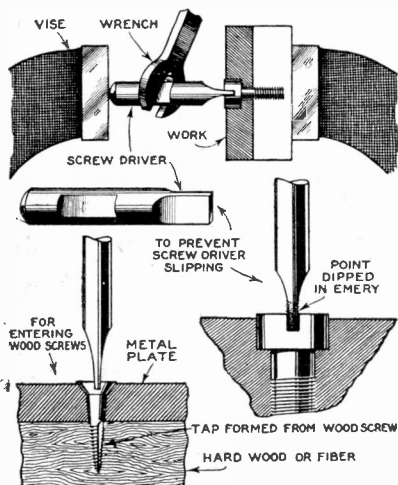

Fig. 1—Driving screws into metal, wood, hard rubber and fiber.
**T**IGHT screw bolts and slipping screw drivers do not help shop work. If a tight screw must be started, grip the work along with a short screw driver in the vise, as shown in Fig. 1, and with a wrench turn the screw driver. The vise will prevent slipping of the driver from the slot.